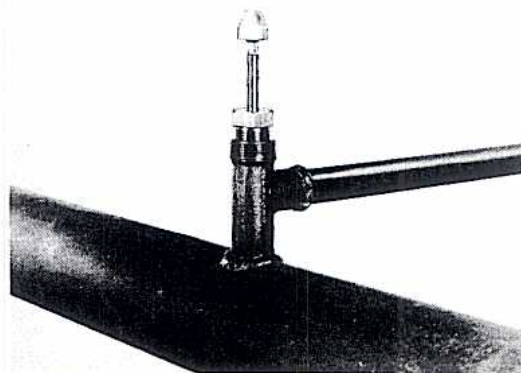

FIGURE 6
5. The H-17615 Center Locating Punch may be used to punch mark the pipe in the center of the Tee to aid in starting the drill. Screw the Center Locating Punch into the Tee and strike the head of the pin a solid blow. FIGURE 6.